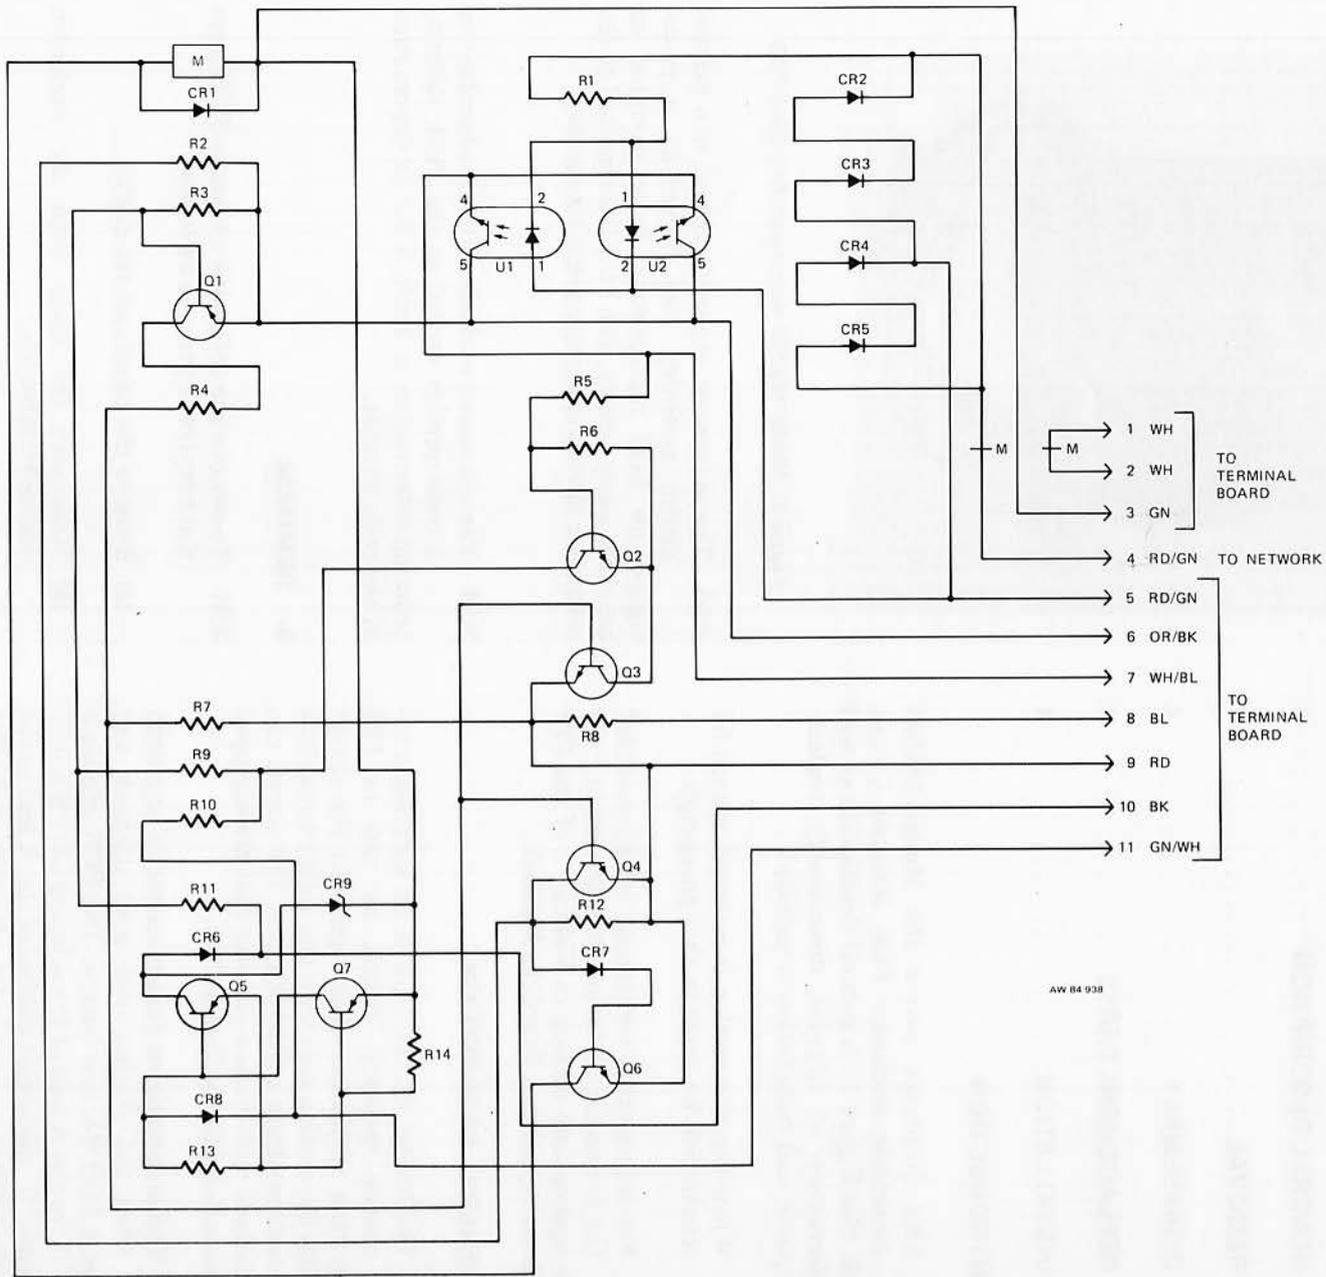

Figure 2: Model 182386 Automatic Exclusion PCB, Schematic
2.01 The Model 182386 PCB is an automatic exclusion (privacy) circuit for use in ITT multibutton telephones. (See Figure 2.) The circuit provides the station user with the ability to exclude other stations from a CO/PBX line. The circuit can only exclude multibutton stations that are equipped with an automatic exclusion PCB.